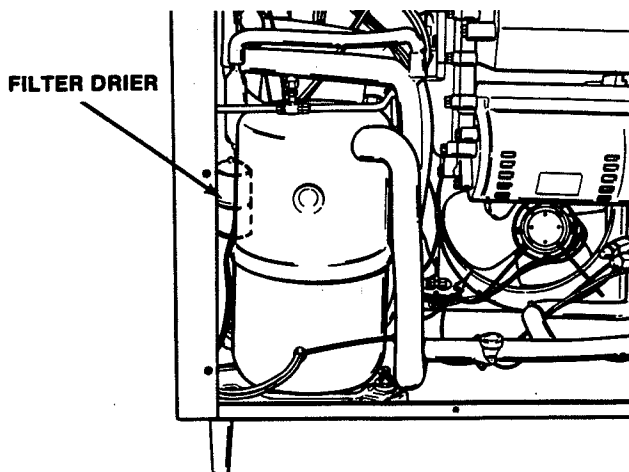

Figure 43. Filter Drier
6. Break the vacuum to (0 P.S.I.G.) with R-502 and, with an open port, replace filter drier using the appropriate brazing material (Fig. 43).
5. Break the vacuum to (0 P.S.I.G.) with R-502 and, with an open port, replace filter drier using the appropriate brazing material (Fig. 43).